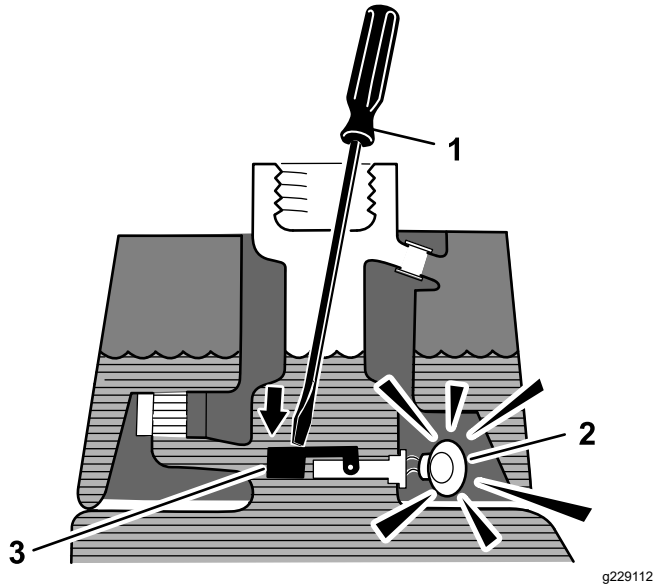

Figure 18
3. Insert a clean rod or screwdriver into the tank neck and gently push down on the float switch (Figure 18); the alarm should sound after the 1-second delay.